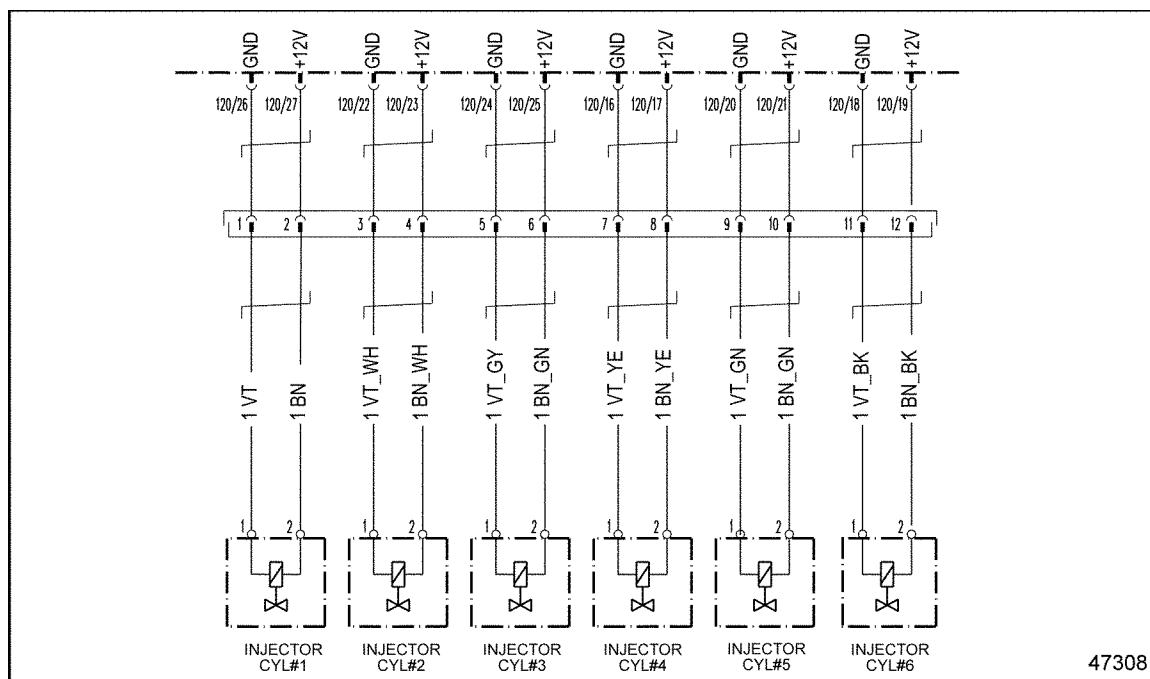

Figure 29-1 MBE 900 Injectors
4. Measure the resistance between pins 1 and 2 on the valve cover side of the connector. See Figure 29-1.